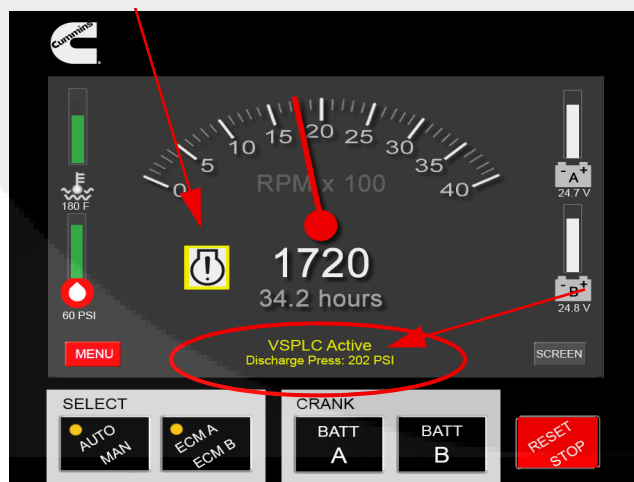

Figure 2-12 VSPLC Active Screen - Yellow (Sample)
- The pump discharge **pressure is greater than 115%** of the desired pressure in a Variable Speed Pressure Limiting Control (VSPLC)-enabled system (see Figure 2-12).
- “VSPLC Active” and the VSPLC discharge pressure will be displayed in yellow at the bottom of the screen (shown in Figure 2-12)
- A yellow engine warning lamp icon will also appear on the screen (shown in Figure 2-12)